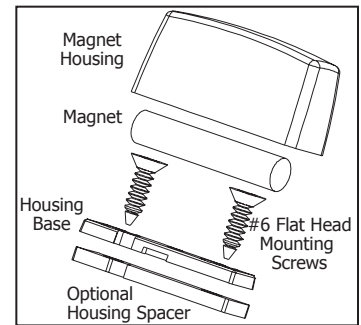

Figure 2: Magnet Assembly
4. Place the magnet housing base on the surface nearest to one of the internal reed switch locations and use the provided screws or double-sided tape to secure the magnet mounting base in place. See Figure 2.